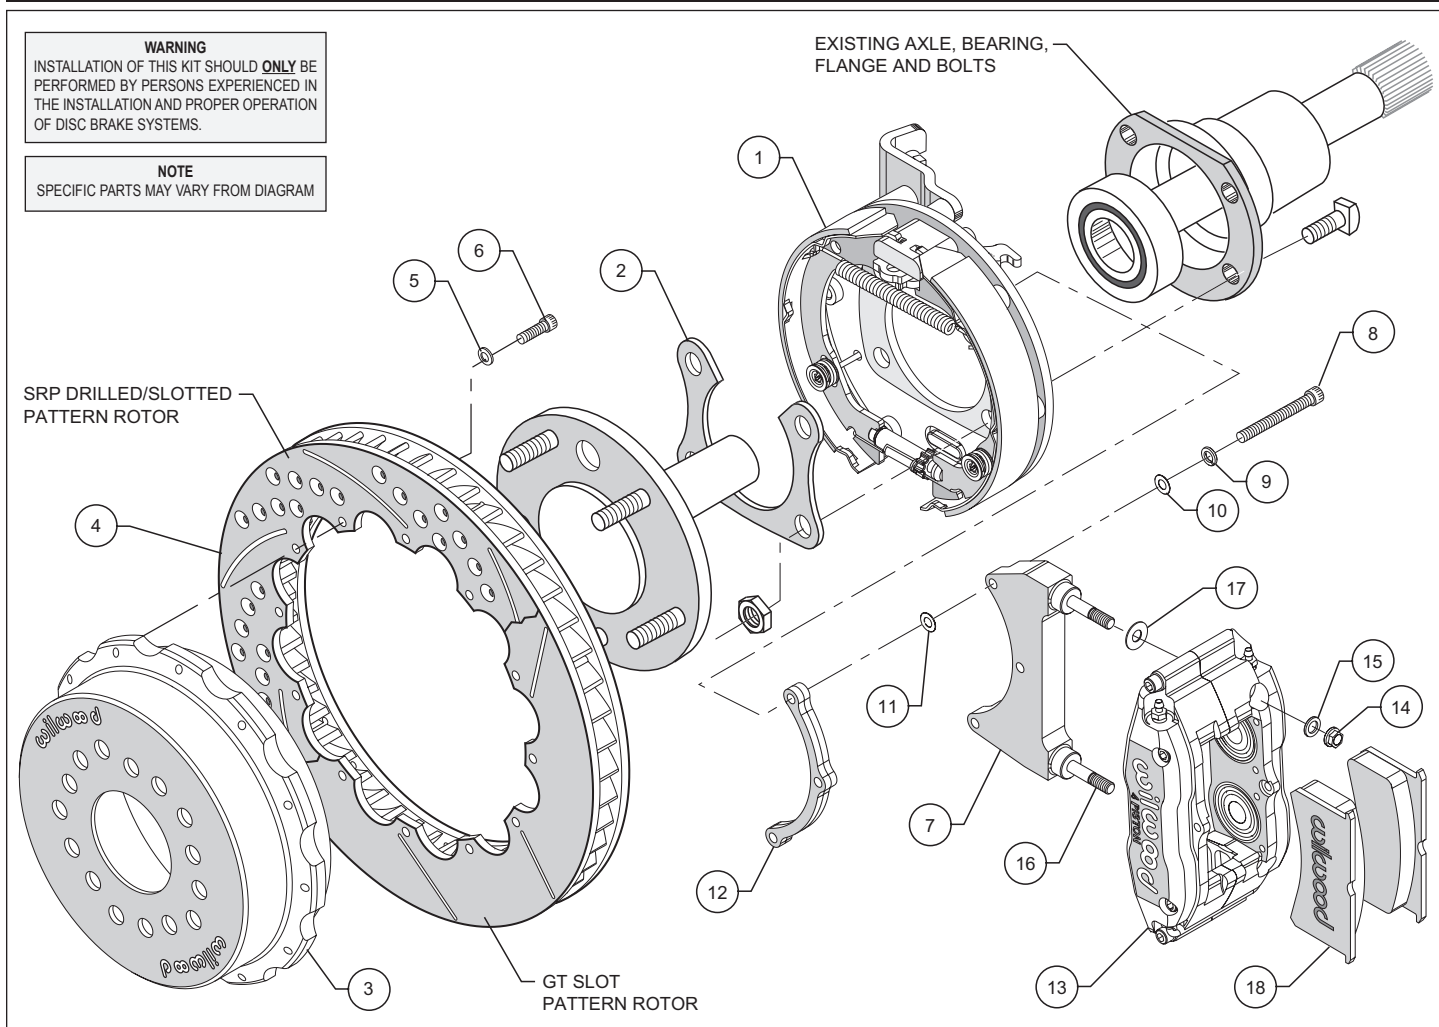

Figure 1. Typical Installation Configuration
- Full Circle Retainers** require the utilization of a qualified machine shop to press off the axle bearing and OEM retainer. Then have machine shop install new retainer (2), supplied with bracket kit with lip facing toward bearing, reference Figures 1, 4 and 5 (we suggest that you install a new bearing at this time, not supplied with kit).
- "U" Retainers** require the removal of the OEM retainer by cutting or grinding a notch in the retainer to facilitate removal. Once OEM retainer is removed, install new retainer (2) supplied with bracket kit with the "U" opening facing up and the lip facing toward bearing, reference Figures 1, 4 and 5.
- Align the correct hole pattern in the hat (3) with the stud pattern on the axle flange. **NOTE:** Some OEM and aftermarket axles come with stud sizes larger than 0.50" diameter. Verify stud size and have a qualified machine shop drill the hats to the correct size, if necessary. Slide the hat/rotor assembly (3 and 4) over the wheel studs covering the bracket kit assembly (1) and against the axle flange face. Check to be sure the hat seats squarely against the hub. Install a couple of lug nuts (finger tighten) to keep the rotor/hat assembly in place while continuing with the installation.
- NOTE:** Please reference the caution statement at the beginning of the assembly instructions. The caliper mounting bracket assembly (7) should be installed first with clean, dry threads on the mounting bolts (8). Install the bracket from the rear side of the bracket kit assembly (1) by sliding bolt (8) through lock washer (9), flat washer (10), bracket (7), shim washer (11) and finally through the spacer (12), see Figure 1. **NOTE:** End of bolt should not exceed inside face of insert. The bracket must tighten squarely against the back side of the bracket kit assembly (1). Inspect for interference from casting irregularities, machining ridges, burrs, etc. Use one thin shim (11) between the bracket (7) and spacer (12) during initial trial fitting.
- Install one washer (17) over each pre-installed stud (16) on the radial mount bracket (7). Slide the caliper (13) in place over the studs and rotor, then install the washer (15) and lock nut (14) to hold the caliper in place. The caliper bleed screws should be pointing up. Snug the lock nuts (14) and check that the rotor (4) is centered in the caliper (13). Add or subtract .015" shims (11) as necessary between the caliper mounting bracket (7) and the spacer (12) to center the caliper (13).
- Remove the caliper center bridge pad retainer bolt, nut, and tube from the caliper. Slide the brake pads (18) into place. They should install easily without interference. Check that the outside radius of the brake pad is aligned with the outside diameter radius of the rotor face. Add or subtract shims (17) between the caliper (13) and mount bracket (7) to gain the proper alignment. Reinstall the center bridge pad retainer tube, bolt, and locknut. The locknut should be snug without play in the bolt or tube. Be cautious not to over tighten.
- Adjust the parking brake shoes outward (using a drum shoe adjustment tool available at your local auto parts store) while spinning the hat (3) until a slight drag is felt against the hat/drum. Remove the lug nuts that were holding the hat/rotor in place. Install the wheel and lug nuts. Check to see that the wheel rotates freely without interference.
- Once all clearances have been checked, remove the wheel, caliper, hat/rotor from the bracket kit assembly (1). Secure the caliper mounting bracket (7) to the bracket kit assembly (1) using red *Loctite*® 271. Torque bolts (8) to 180 in-lb. Reinstall the hat/rotor assembly and again use lug nuts to hold it in place. Lubricate caliper mounting studs and nuts with lightweight oil, reinstall the caliper, torque the caliper nuts (14) to 30-35 ft-lb.